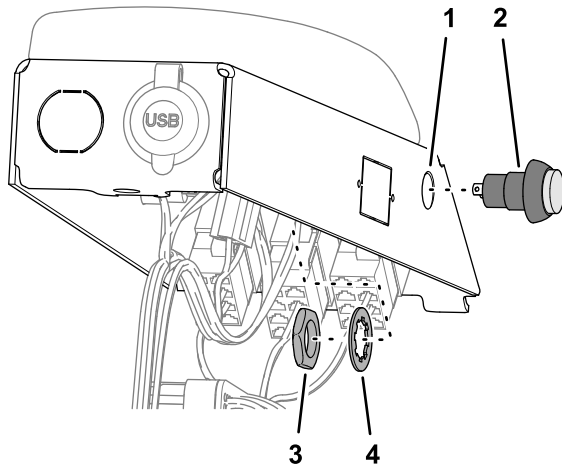

Figure 59
1. Insert the push-button switch into the hole in the arm panel (Figure 59).